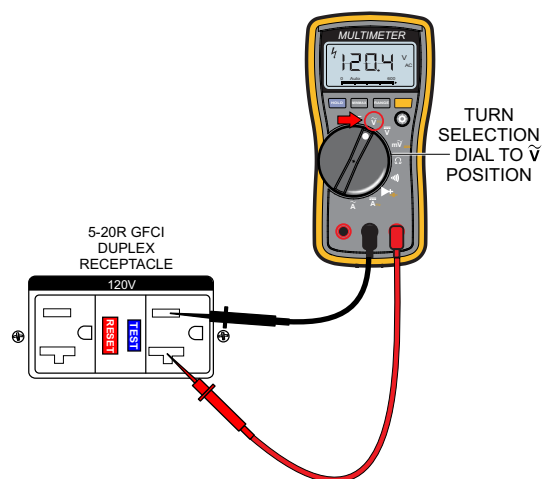

Figure 25. 120V GFCI Receptacle
- Using an external voltmeter as shown in Figure 25, verify that 120 VAC is present at the GFCI duplex receptacle.